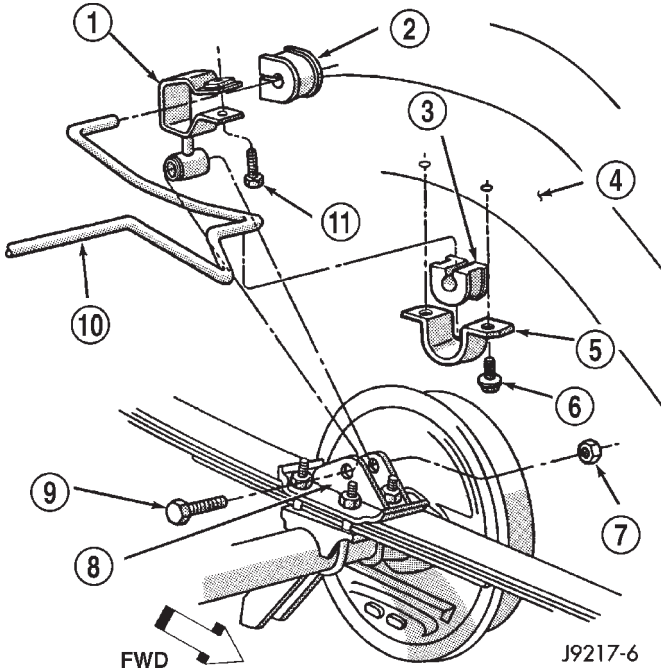

Fig. 2 Stabilizer Bar
- (1) Raise and support the vehicle.
- (2) Disconnect stabilizer bar links from spring brackets (Fig. 2).
- (3) Disconnect the stabilizer bar brackets from the body rails. Remove the stabilizer bar and links.